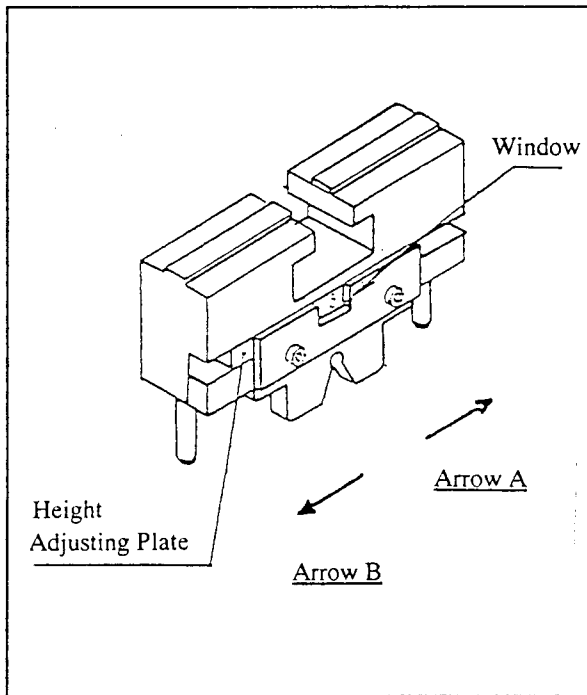

Fig.6
- (1) Loosen the two (2) bolts shown in Fig.6.
- (2) Move Height Adjusting Plate to either direction of Arrow A or B until a number becomes visible in the center of window.
- (3) Push up the crimper then tighten the bolts.